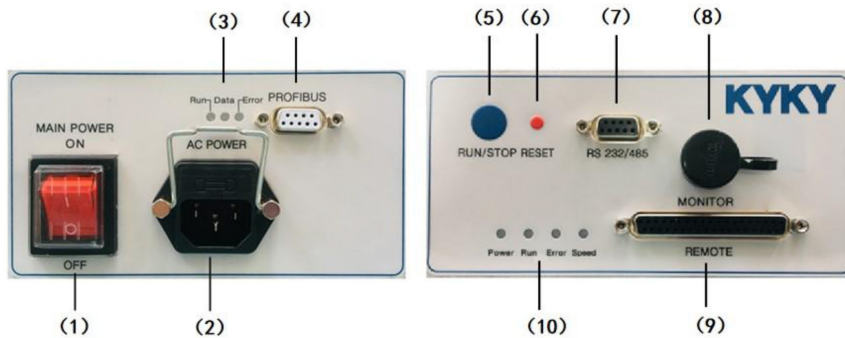
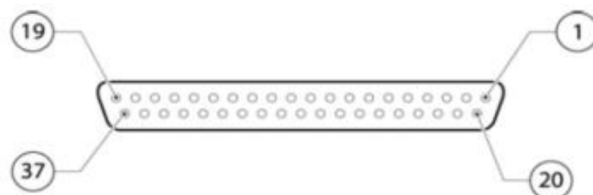

Figure 7.2 Controller panel diagram
Figure 7.3 I/O External Control Terminal (DB37 pin female)
The "REMOTE" external control interface is for the signal input and output of the pump controller (see Figure 7.2 position (9)), the interface uses a D-Sub 37-pin connector (see Figure 7.3), the female seat, and the connection screw is M2.6.